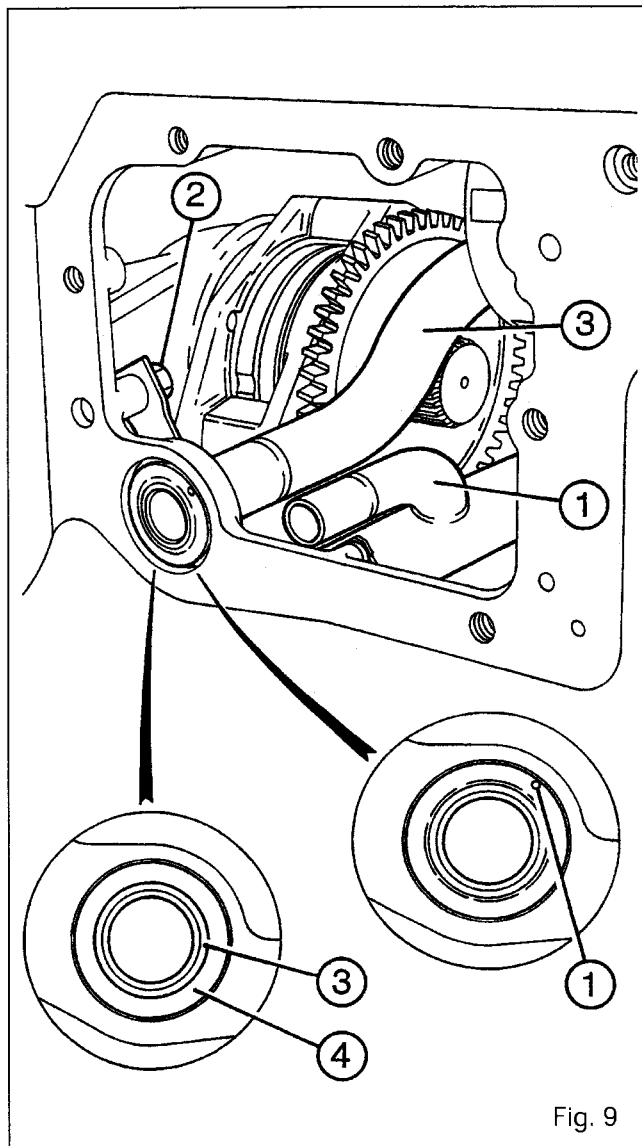

Fig. 9
- If it is necessary to remove the suction pipe **(1)**, remove the bolt **(2)** (Fig 9). Orient the pipe as required and remove it by manoeuvring it through the opening in the cover.
11. Fit the suction pipe **(1)** if it was removed. Tighten the bolt **(2)**. Fit the booster pipe **(3)** with the notch in the dowel **(1)**. Lightly smear the seal **(4)** with miscible grease and position it on the flange of the pipe **(3)** (Fig. 9).